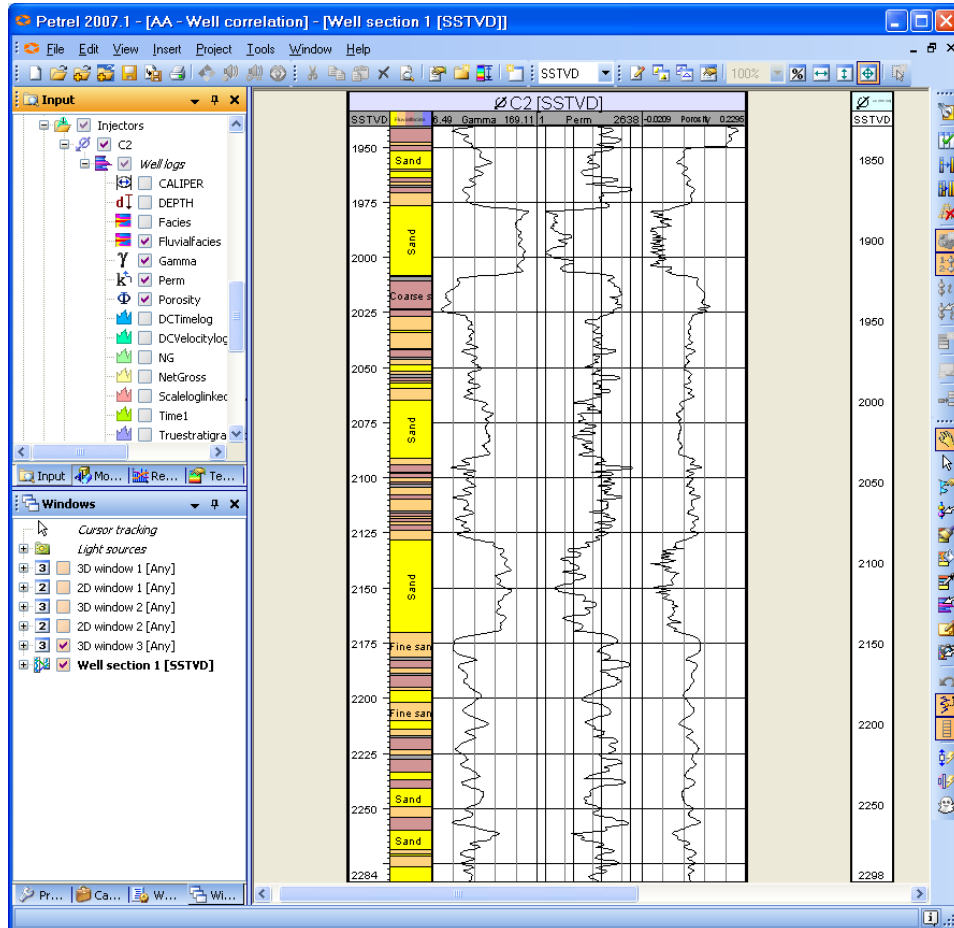

Fig.10.4: Well logs of well C2 displayed in the Well Section window
3. Now select the logs to be displayed for all wells from the **Global Well logs** folder under the **Wells** folder as show in Fig. 10.4.